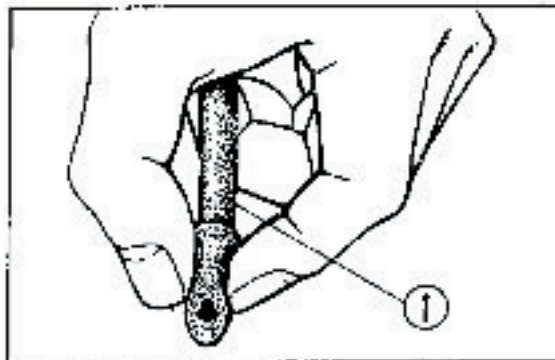

Fig. 2-14 ① Drain tube
- Squeeze the end of the drain tube as shown in Fig. 2-14 and drain any oil or water that remains in the tube.